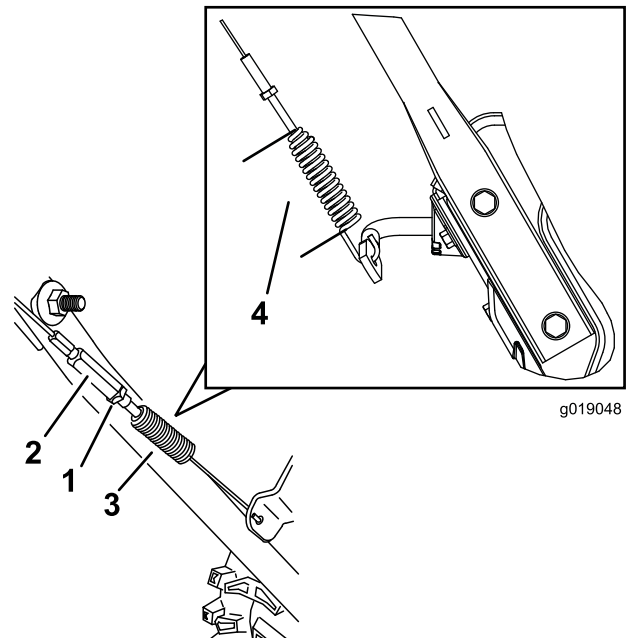

Figure 38
3. Loosen or tighten the turnbuckle to adjust spring length to 2.18 inches (5.5 cm) (Figure 38).
4. Tighten the jam nut (Figure 38), ensuring there is slight tension on the cable.